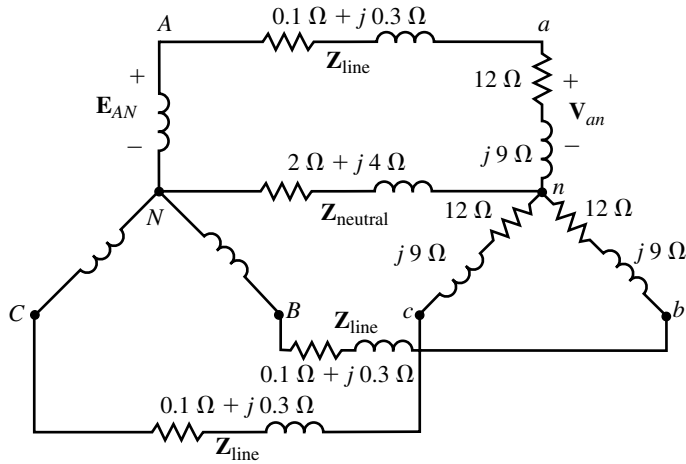

FIGURE 23-48
27. For the circuit of Figure 23-48, assume $\mathbf{Z}_{\text{line}} = 0.15 \Omega + j0.25 \Omega$ and $\mathbf{V}_{ab} = 600 \text{ V} \angle 30^\circ$. Determine $\mathbf{E}_{AB}$.